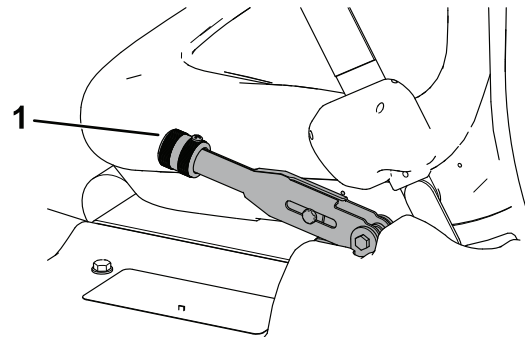

Figure 48
2. Loosen the set screw securing the knob to the parking-brake lever (Figure 48).